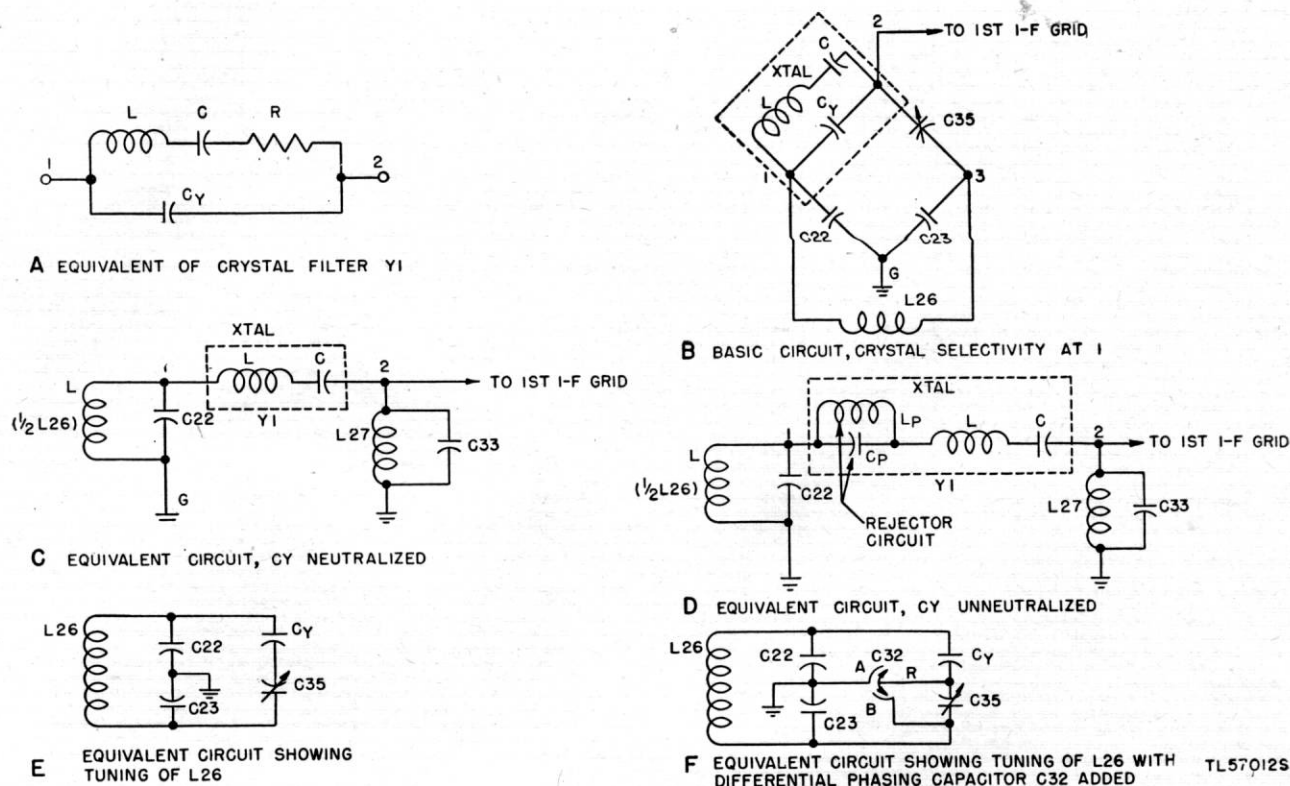

Figure 28. Radio Receiver BC-779-B, functional and equivalent diagrams of crystal filter circuit.
(4) Refer to appendix III for circuit details of Improvement Kit MC-531.
61. Crystal Filter (fig. 28)
a. EQUIVALENT CRYSTAL CIRCUIT. The equivalent electrical circuit of a crystal is shown in "A," figure 28. The circuit, and hence the crystal, are resonant at two frequencies: The frequency at which the reactance of L is equal to the reactance of C (series resonance), and the frequency at which the effective reactance of L-C (in series) is *inductive* and *equal* to the capacitive reactance of C_Y (parallel resonance). At the series-resonant frequency the crystal acts as a low-impedance connection between 1 and 2. At the parallel-resonant frequency the crystal acts as a high impedance between 1 and 2.
b. BASIC FILTER CIRCUIT ("B," fig. 28). Capacitors C22 and C23 (100 mmF each) are connected in series across the secondary of i-f input transformer L26, and their junction is grounded to provide a midpoint connection in the resonant circuit L26-C22-C23. Consequently, the capacitor voltages are always of equal amplitude but 180° out of phase. Phasing capacitor C35 (1.5 to 5 mmF) is connected between 3 and 2, and the crystal is connected between 1 and 2.
c. NEUTRALIZATION OF C_Y . Capacitors C22, C23, C35, and C_Y (the capacity between the crystal holder plates) form a capacity bridge; the input is applied to 1 and 3, the output is taken from 2 and G. When capacitor C35 is adjusted so that its capacitance is equal to that of C_Y , the voltage coupled from 3 through C35 to 2 is equal and opposite to the voltage coupled from 1 through C_Y to 2. Under this condition C_Y is neutralized and the crystal acts as a series-resonant circuit only ("C," fig. 28). Since the crystal is resonant at the intermediate frequency, there is (in effect) a direct connection between 1 and 2. As indicated in "C," figure 28, only the voltage across C22 (one-half the secondary voltage) is applied through the crystal to the grid circuit of the first i-f stage.
tance of $L-C$ and the capacitive reactance of C_Y . For simplicity the parallel-resonant circuit is denoted as rejector circuit $L_P C_P$ in "D," figure 28. L_P and C_P denote the effective inductance and capacitance at the parallel-resonant frequency. L and C indicate the effective inductance and capacitance of the crystal at the series-resonant frequency, in this case the 465-kc i-f. In other words, unless C_Y is neutralized, the crystal acts simultaneously as a parallel- and series-resonant circuit. The parallel-resonant circuit $L_P C_P$ has no effect on the 465-kc i-f. but presents a high impedance to, and therefore rejects, the frequency to which $L_P C_P$ is resonant. L and C present extremely low impedance to the 465-kc i-f signal voltage and high impedance to voltages at different frequencies. *With underneutralization the resonant frequency of $L_P C_P$ is higher than 465 kc.*
f. CAPACITOR C_{32} . Capacitor C_{35} , in series with capacitance C_Y , is across L_{26} and affects its tuning ("E," fig. 28). To avoid the detuning effect and to enable shifting the rejection frequency to either side of the i-f., differential PHASING capacitor C_{32} ("F," fig. 28) is used in the radio receiver. Stator sections A and B are so arranged that, as rotor R is turned out of one stator into the other, the capacitance of the first *decreases* by the same amount that the capacitance of the second *increases*. Thus, whether the rotor is entirely engaged in stator A, is at a midpoint, or is entirely in stator B, the effective capacitance across A-B, and therefore across L_{26} , remains constant. Assume that C_{32} , the PHASING capacitor, is set at the arrow position of the PHASING control on the front panel and
(2) CRYSTAL SELECTIVITY switch at 1. When CRYSTAL SELECTIVITY switch SW7 is placed at 1, the short is removed from the crystal. If the secondary of L26 and the parallel-resonant grid circuit, L27-C33, are tuned to 465 kc, each is the equivalent of a high resistance in series with the equivalent series-resonant circuit of the crystal ("C," fig. 28). Consequently, the *Q* and therefore the selectivity of the series-resonant (crystal) filter circuit is reduced, and the bandwidth is several kilocycles wider than that of the crystal *alone*.
(3) CRYSTAL SELECTIVITY at 2, 3, 4, or 5. Advancing the CRYSTAL SELECTIVITY switch